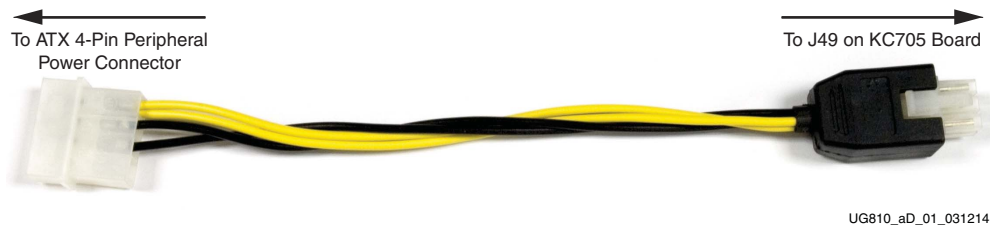

Figure D-1: ATX Power Supply Adapter Cable
When the KC705 board is used inside a computer chassis (plugged in to the PCIe® slot), power is provided from the ATX power supply 4-pin peripheral connector through the ATX adapter cable shown in Figure D-1 to J18 on the KC705 board. The Xilinx part number for this cable is 2600304 and is equivalent to Sourcegate Technologies part number AZCBL-WH-1109-RA4. For information on ordering this cable, see [\[Ref 21\]](#).
7. Connect the ATX power supply to the KC705 board using the ATX power supply adapter cable as shown in Figure D-1: